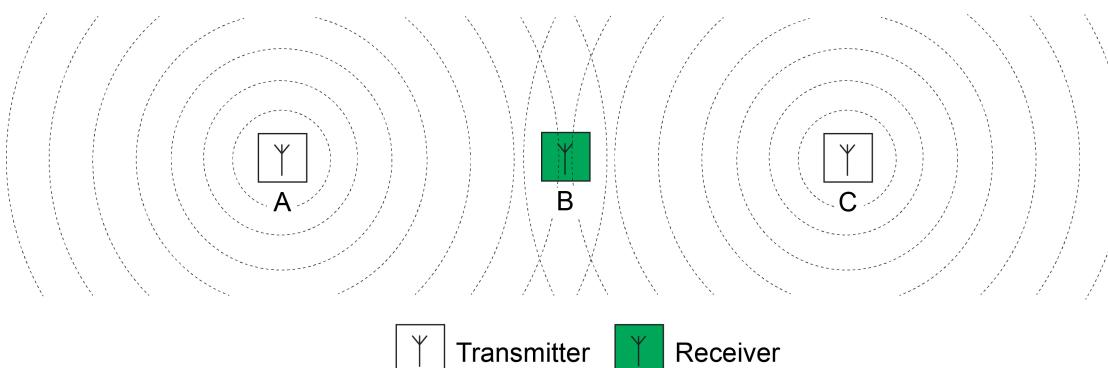

Figure 24: Radio collisions on the receiver due to the transmitter being too far away
The described transmission method for controlling media access generally prevents radio collisions in a KNX RF environment, but cannot exclude them completely. For example, it may occur that, in the case of a transmission between an RF transmitter (A) and an RF receiver (B), there is an additional RF transmitter (C), which is located within the range of the RF receiver, but cannot reach the other RF transmitter due to the spatial distance (Figure 24). In such a case, the two RF transmitters are unable to detect when the other transmits radio signals (Hidden Station Problem). In consequence, radio collisions can occur on the receiver located in the range of the two RF transmitters.